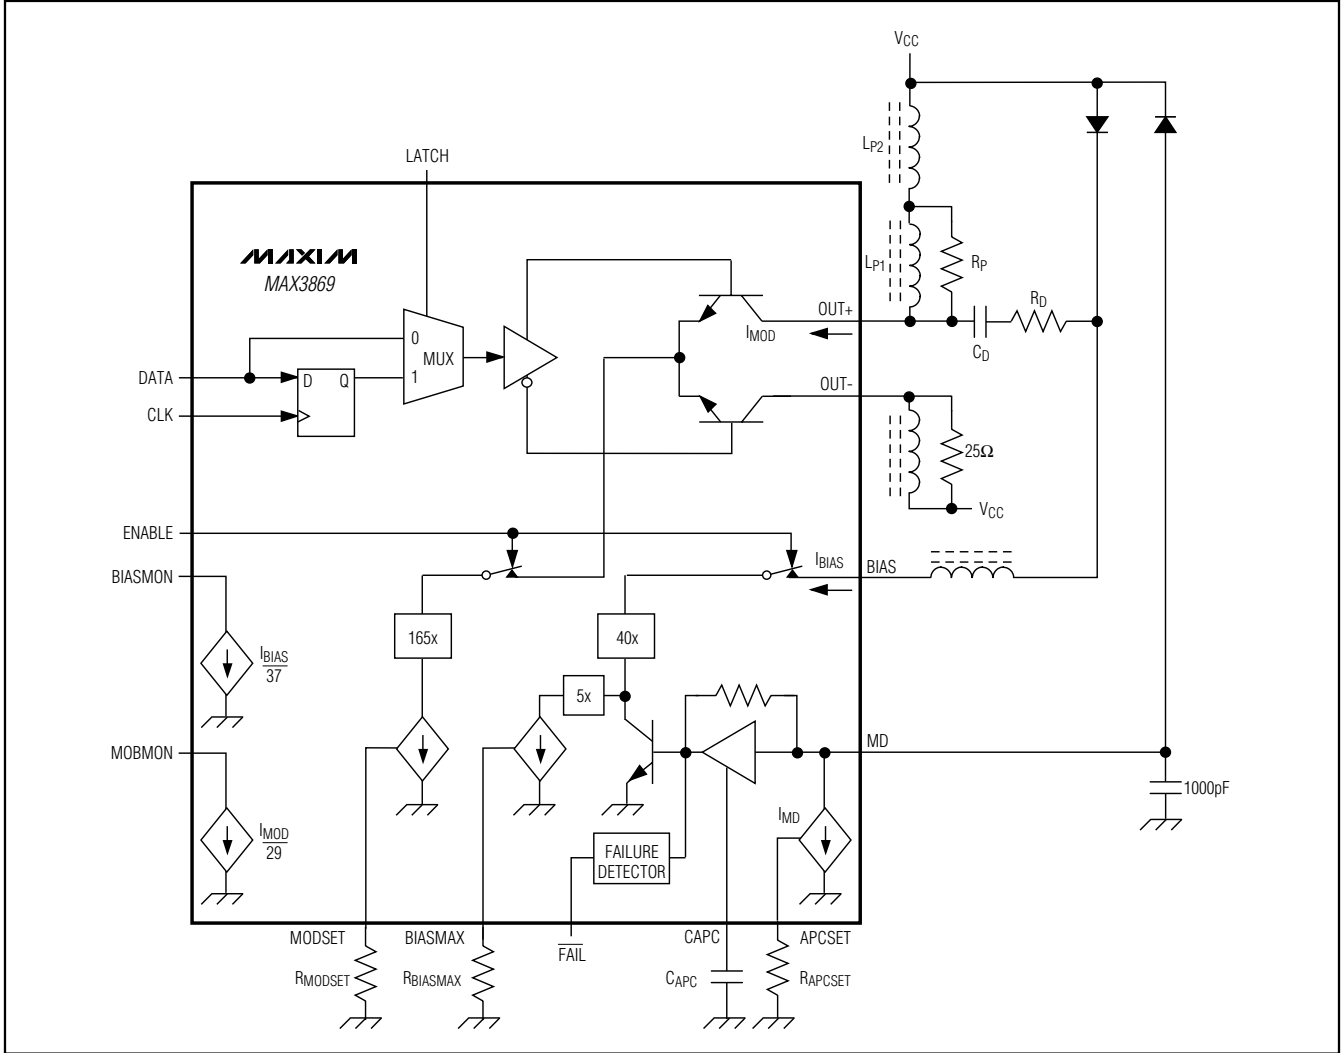

Figure 4. Functional Diagram
allows the output at OUT+ to swing above and below the supply voltage VCC. A simplified functional diagram is shown in Figure 4.
To minimize optical output aberrations caused by signal reflections at the electrical interface to the laser diode, a series damping resistor (RD) is required (Figure 4). Additionally, the MAX3869 outputs are optimized for a 25Ω load. Therefore, the series combination of RD and RL (where RL represents the laser-diode resistance)